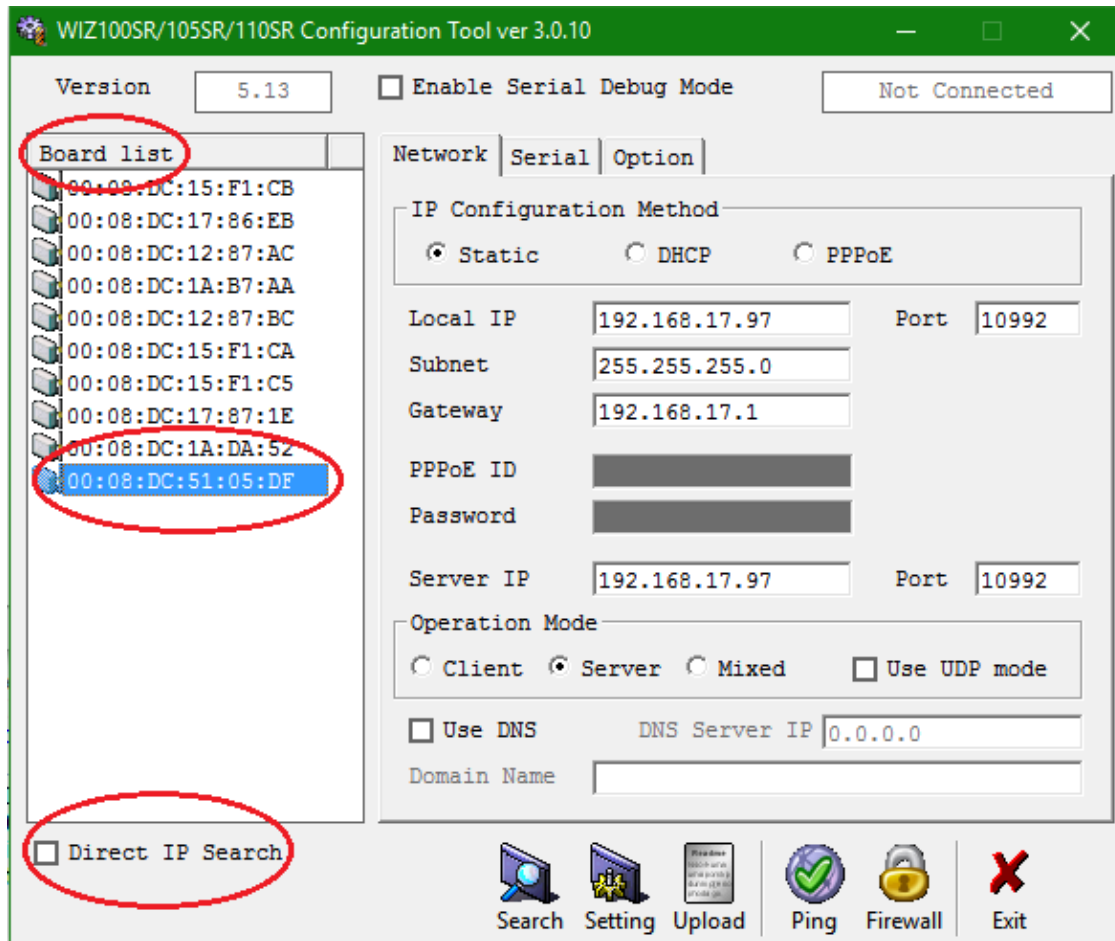

Figure 10
- All CR3NW/SR2(s) found will be displayed in the **Board list** field. See Figure 10 below.
3. Click once on a Unit in the **Board List** to select it. See Figure 10 above.